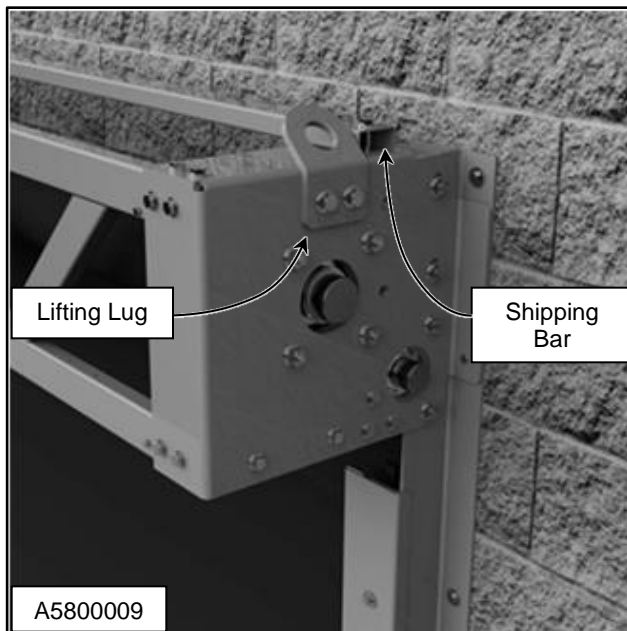

Figure 34
1. Remove and discard the shipping bar and both lifting lugs from the head assembly if this hasn't already been done. Save the hardware from the shipping bar. (See Figure 34)